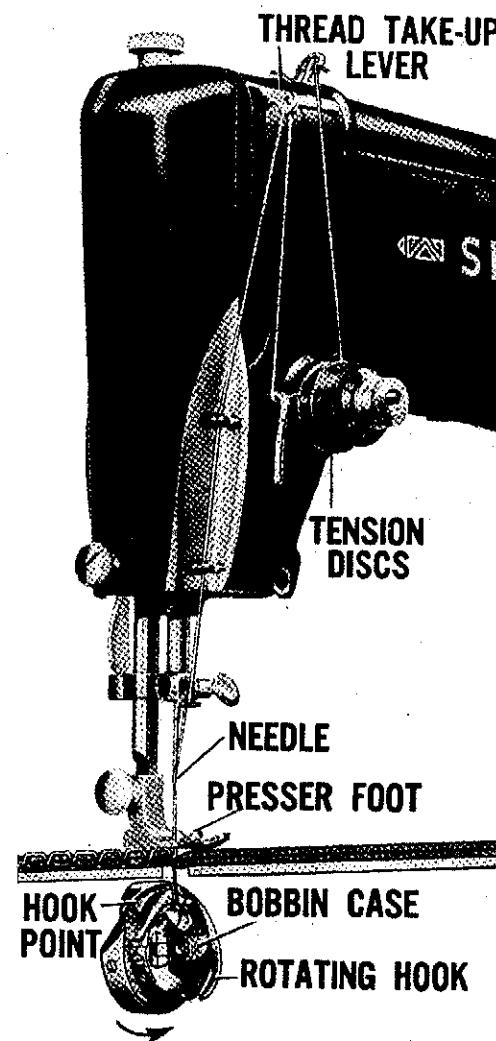

Fig. 10. Stitch Completed
**Fig. 10** shows the final stage of locking the stitch. As the take-up lever rises to its highest position, the feed dog is completing its forward motion, thus locking the two threads into a lock stitch.